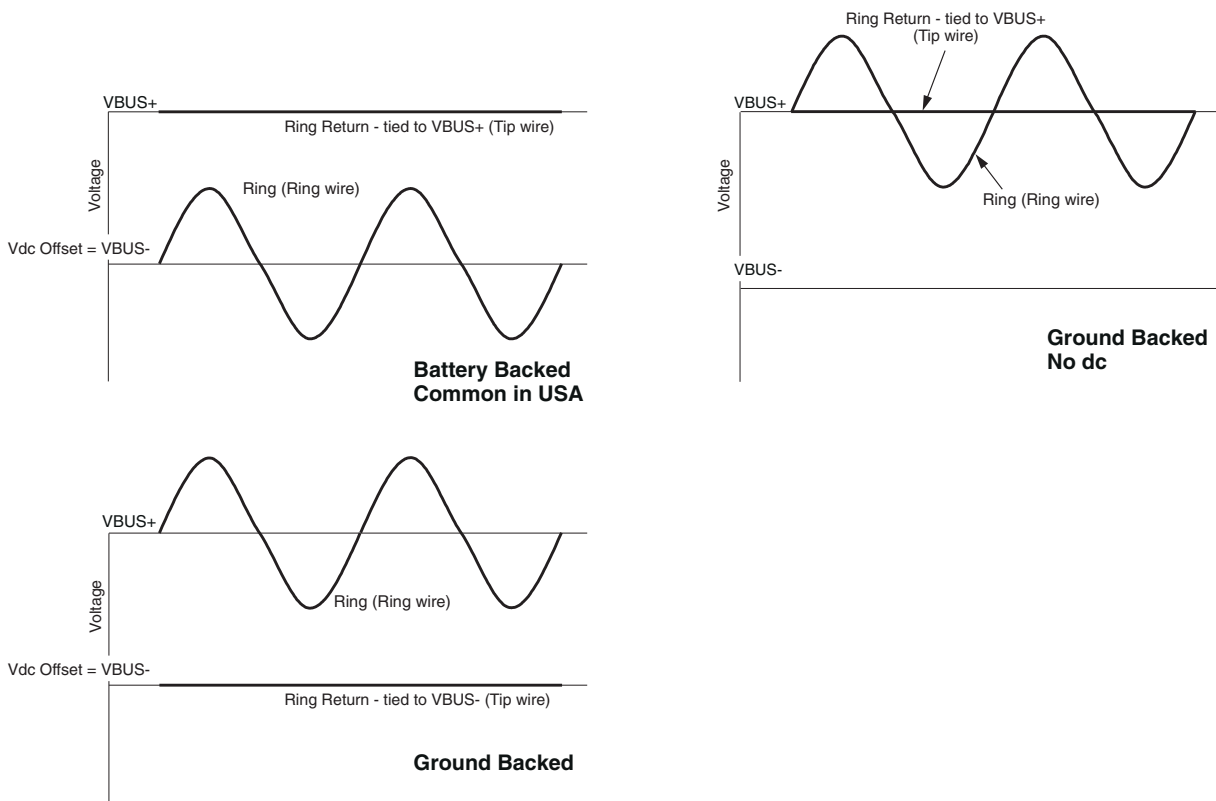

Figure 1: Ring Signaling Types
- Provides 3 ring signaling types (See Figure 1).